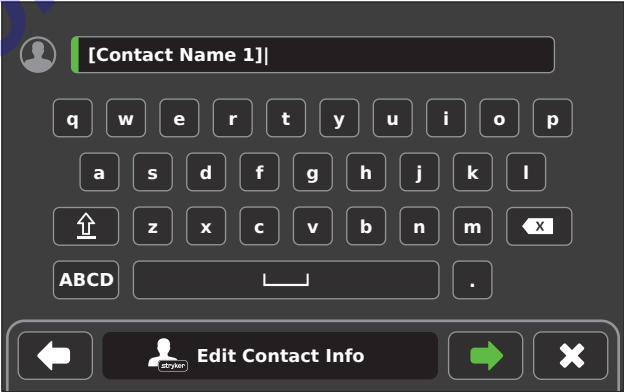

Figure 35 – Edit CONTACT INFO Name
5. Using the keyboard, edit the name and touch the FORWARD button (Figure 35).